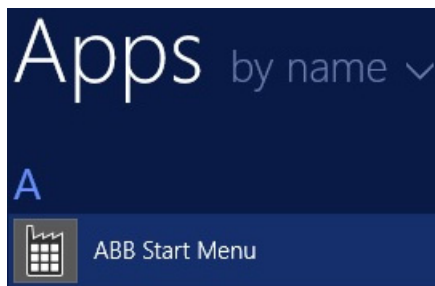

Figure 3. Accessing ABB Start Menu through the Apps Screen
- The ABB Start menu is available in the Apps screen as shown in Figure 3.